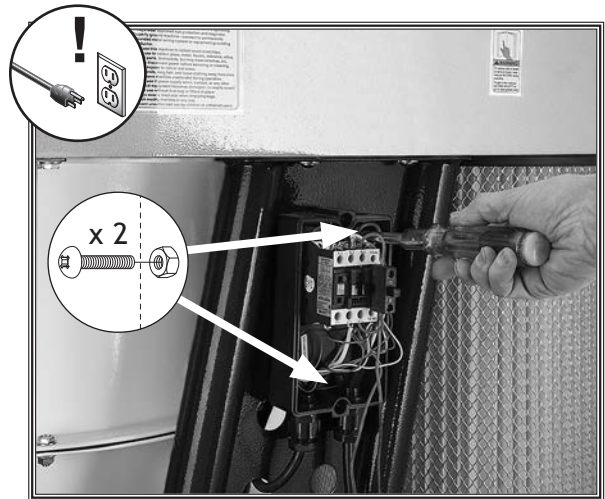

Figure 30. Installing magnetic switch on support arm.
- 31. Install magnetic switch over FIX SWITCH HERE label (left support arm for Models W1867 and W1868, right support arm for Model W1869), then secure with (2) 10-24 x 3/4" Phillips head screws and (2) 10-24 hex nuts (see Figure 30).